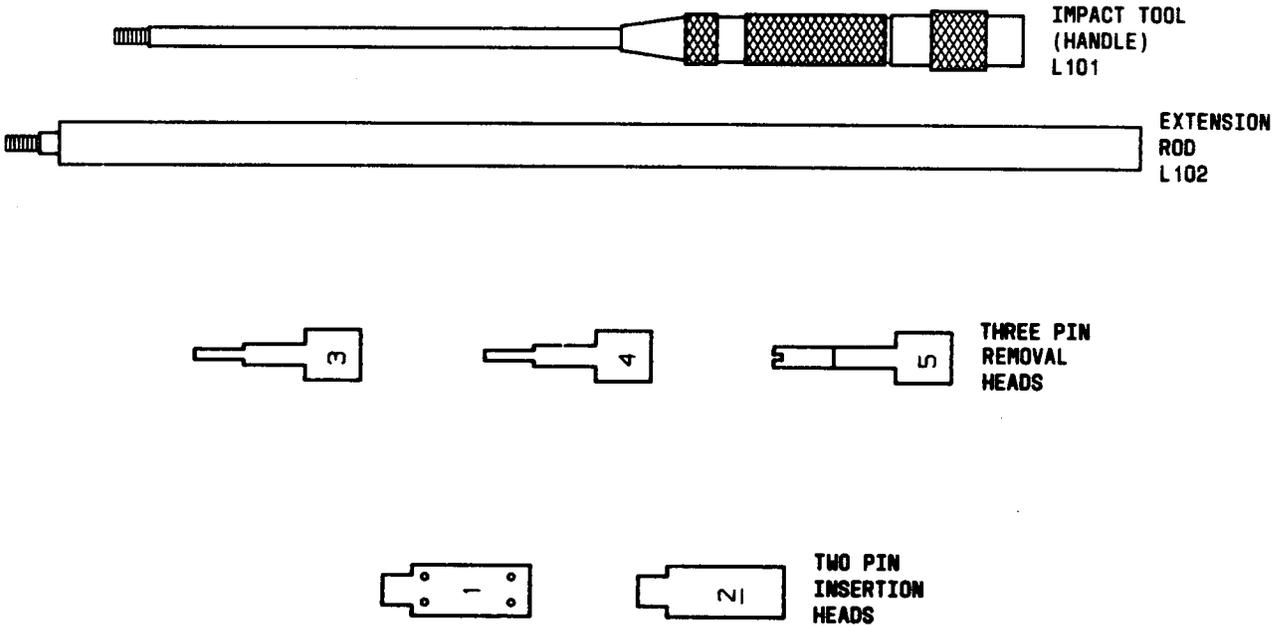

Fig. 1—KS-22876, L2, Pin Kit
2.05 KS-22876, L2: The KS-22876, L2, pin kit (Fig. 1) is used to remove and replace terminal pins. For procedures on the use of this kit, refer to Section 075-129-301. The kit consists of the following items: